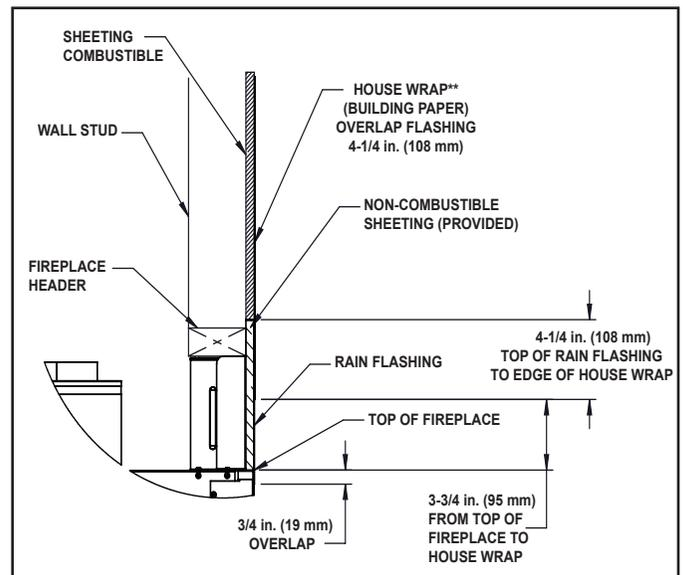

Figure 10.5
**CAUTION:** The house wrap should not come any lower than 4-1/4 in. (6 mm) below the bend on the metal flashing. See Figure 10.5.